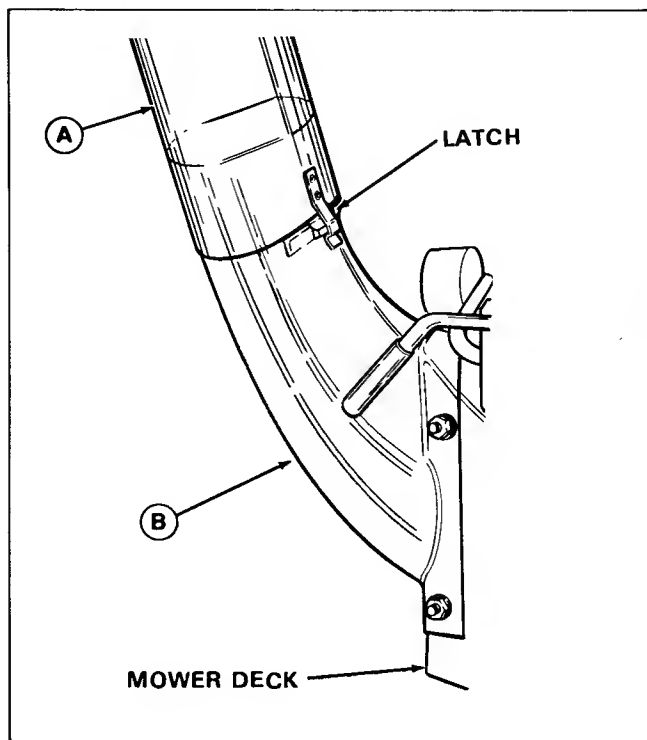

Figure 18.
8. Insert tube (A, figure 18) onto adaptor (B) so it latches into place.